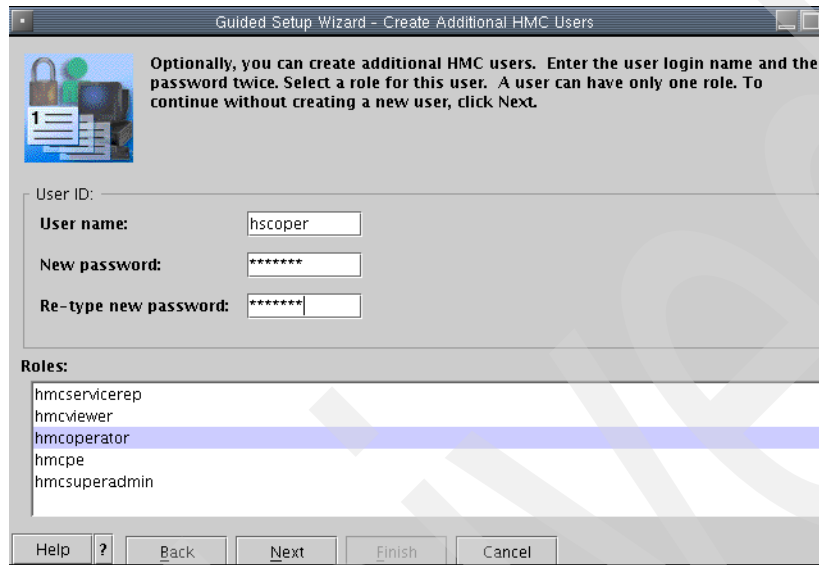

Figure 4-8 Guided Setup wizard - Create additional HMC Users
8. The Create additional HMC users panel is now shown (see Figure 4-8). You can now optionally create new HMC users at this stage. In our example, we decided to create a new hscoper user ID with a role of hmccoperator to allow our operation staff access to HMC and work with partitions. See 7.3, “HMC User Management” on page 238 for further information on creating users and their roles.